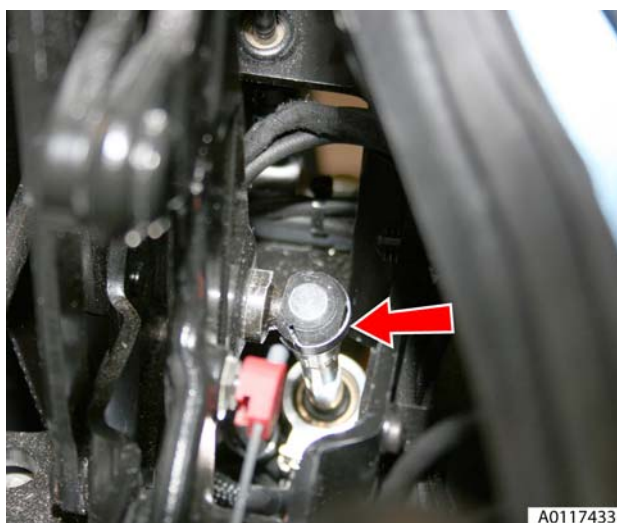

Figure 4
4. Release cylinder lower retaining clip and disconnect cylinder from body (see Figure 4).